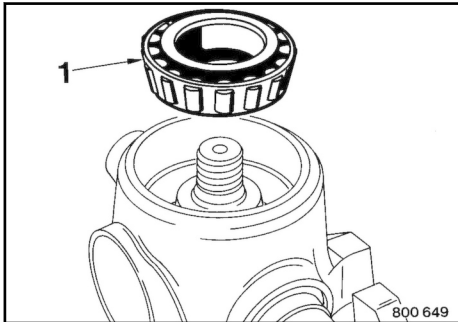

Fig. 202
7. Knock taper roller bearing 1 ↗ Fig. 202 into the bearing housing.